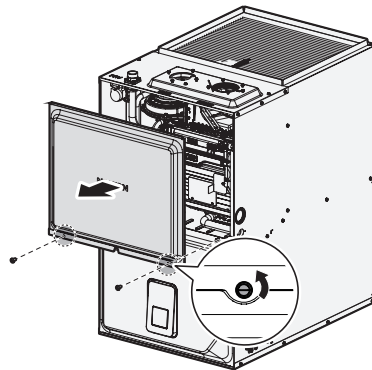

Figure 1. NPF Series Upper-Front Cover
2. Remove the upper-front cover and gain access to the internal components. See Figure 1 for illustration of removing the upper-front cover.